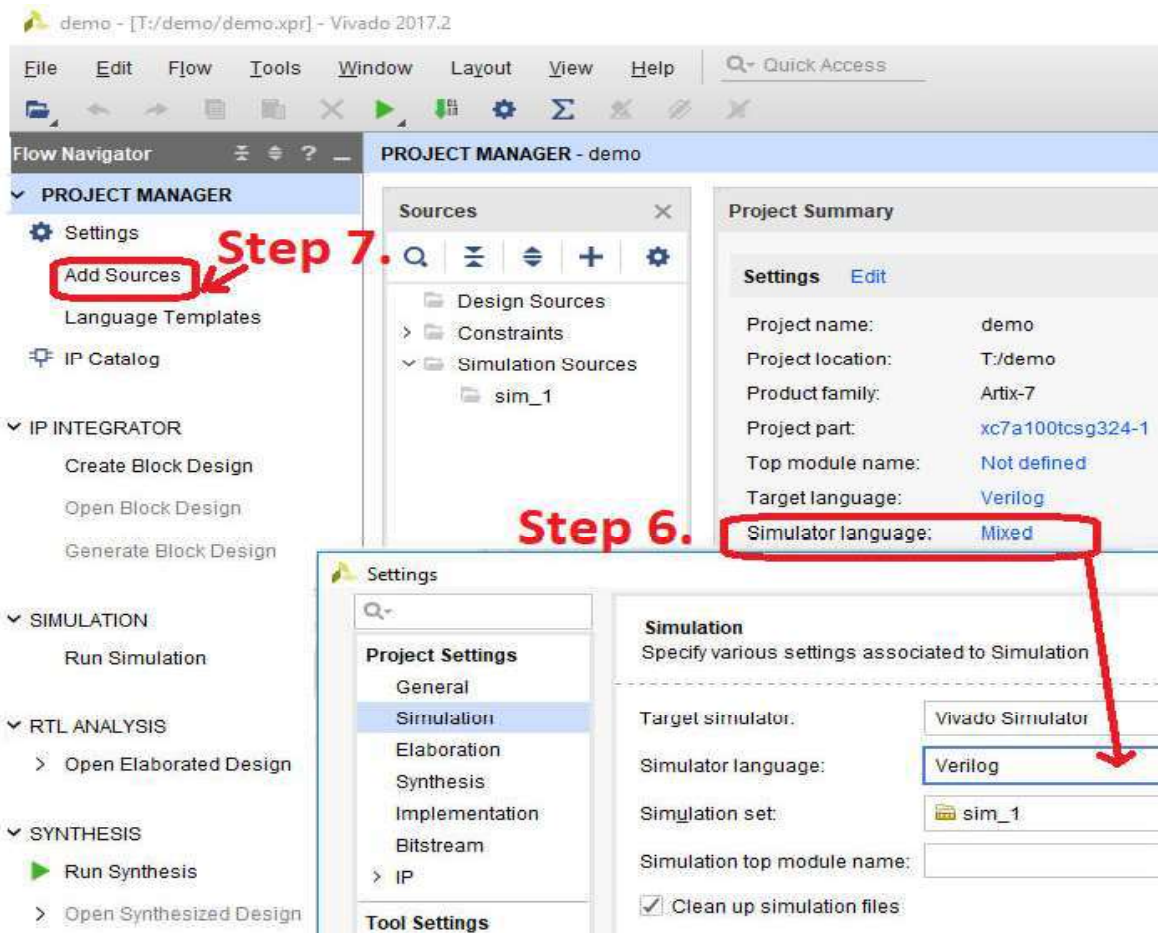

Figure 1-2. Project settings
- Click on Simulator language “Mixed” in the Project Summary window, and then change the simulator language to “Verilog” inside the “Settings” popup window shown in Figure 1-2. Click on “OK” button.
7. Click on “Add Sources” shown in Figure 1-2, choose “Add or create design sources” -> Next.